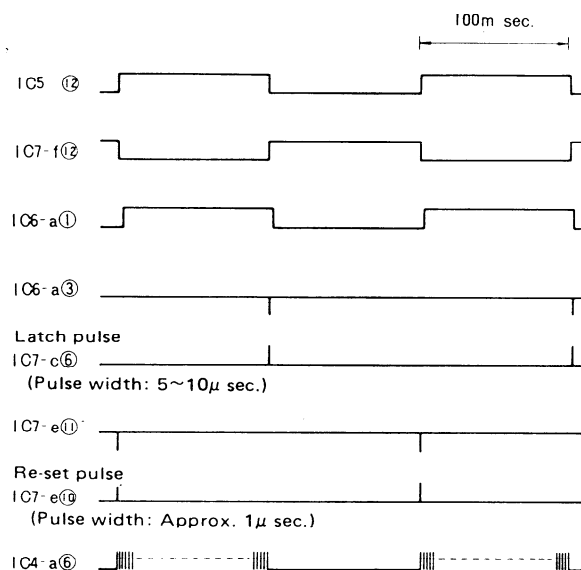

Fig. 4 Timing chart (A), Generation of Latch pulse and Re-set pulse
These IC's are reset at "H" and the output of BCD becomes "L" "L" "L" "L" regardless of presence or absence of CLOCK input. When the reset input terminal is "L", the count is started. The condition of generation of the latch pulse and reset pulse is shown in the time chart (A) of Fig. 4.